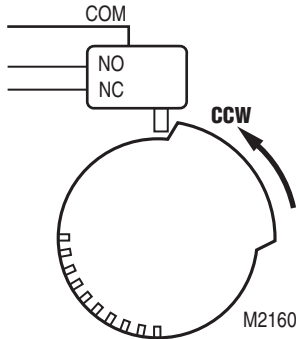

Figure 4. Switching configuration (top view) for counterclockwise ↺ rotation.
Note: With switch cam as shown in Figure 4, the normally closed contact opens during counterclockwise rotation and the normally open switch closes.
5. Move each cam inside switch assembly to the appropriate position. Remember the direction of travel of the cam for switching purposes (see Figure 4 and 5). Monitor the switch closure with an ohmmeter for a continuity check. See Table 1.